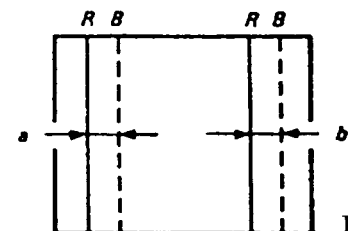

Fig. 3-8
5. Adjust the H TILT (RV1701) so that the RED and BLUE shown in Fig. 3-8 will become $a=b$.